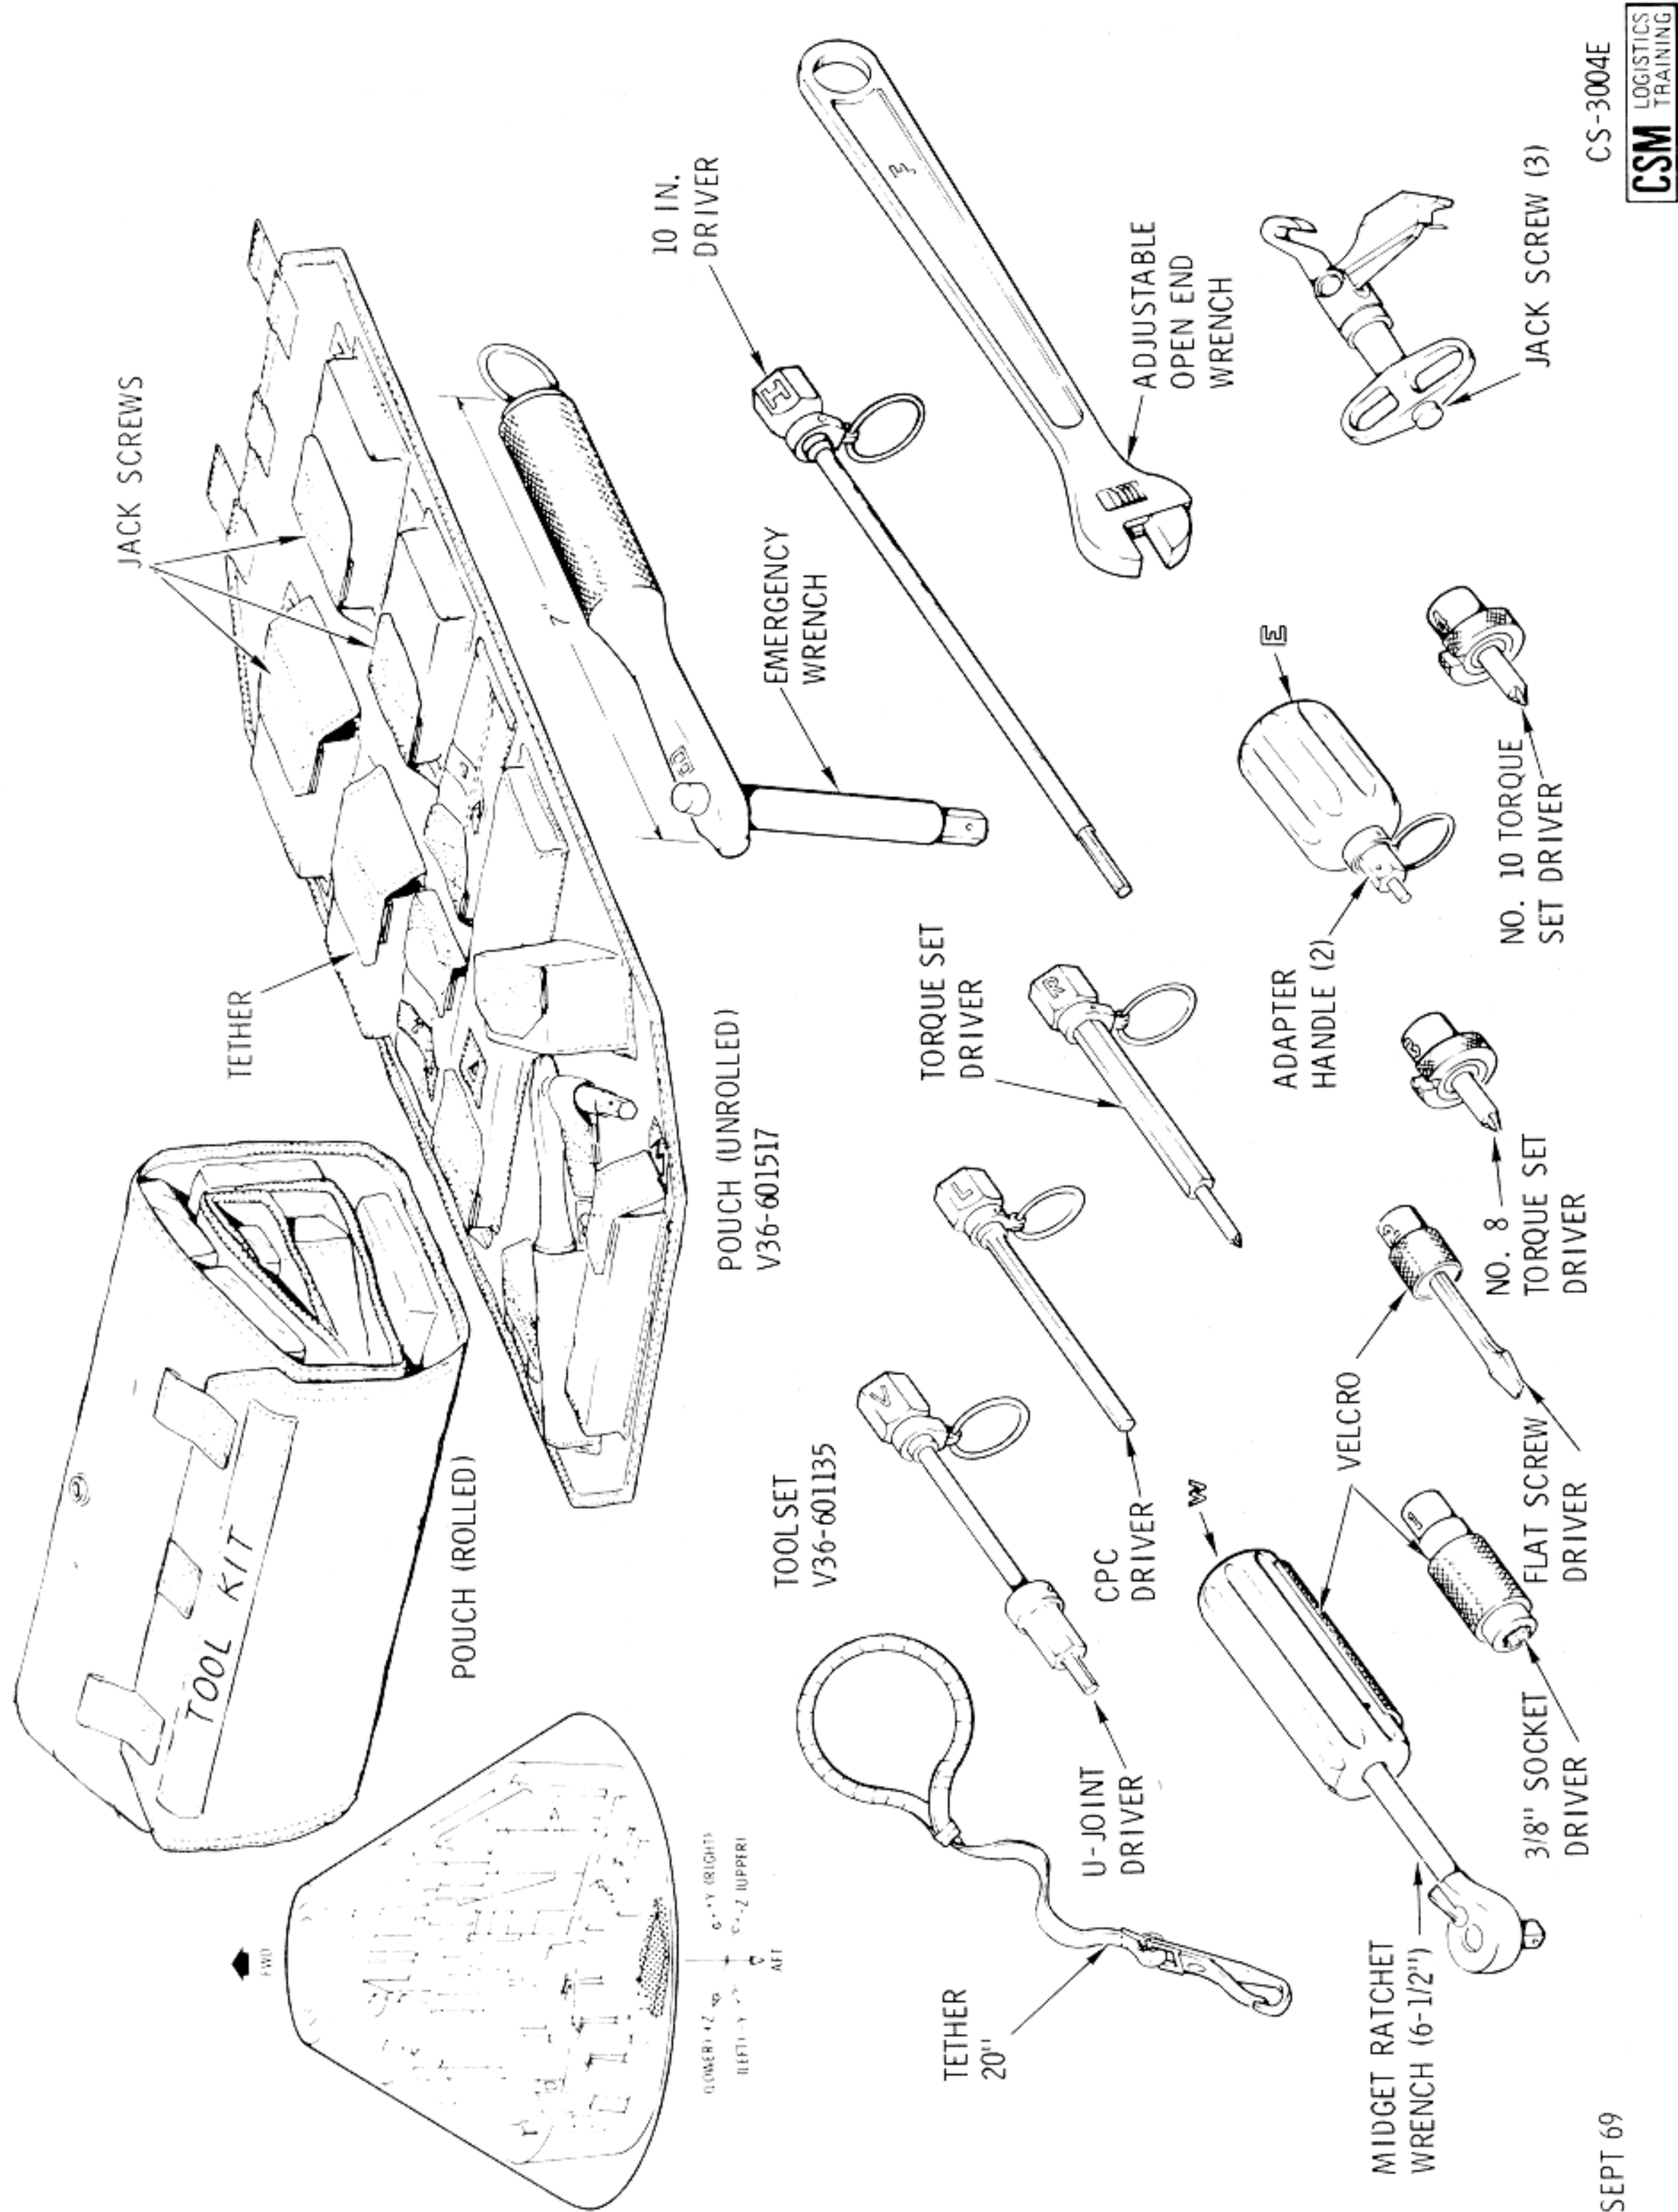

Figure 2.12-32. Crewman Toolset
2.12.5.2 Crewman Toolset (Figure 2.12-32).